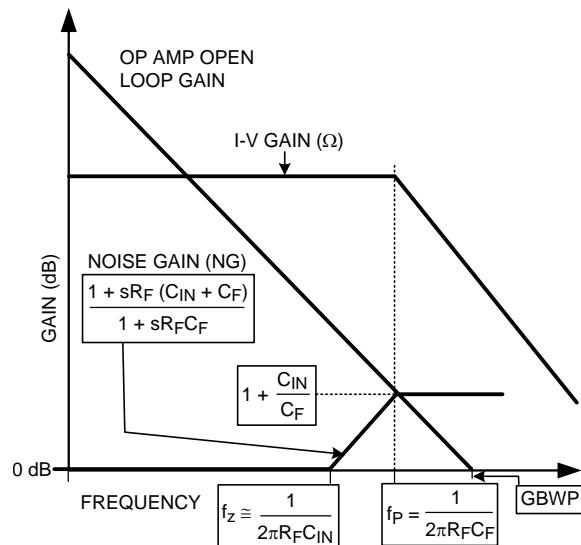

Figure 61. Transimpedance Amplifier Noise Gain and Transfer Function
Figure 61 shows the Noise Gain (NG) and transfer function (I-V Gain). As with most Transimpedance amplifiers, it is required to compensate for the additional phase lag (Noise Gain zero at f_z) created by the total input capacitance (C_D (diode capacitance) + C_{CM} (LMH6629 CM input capacitance) + C_{DIFF} (LMH6629 DIFF input capacitance)) looking into R_F . This is accomplished by placing C_F across R_F to create enough phase lead (Noise Gain pole at f_P) to stabilize the loop.